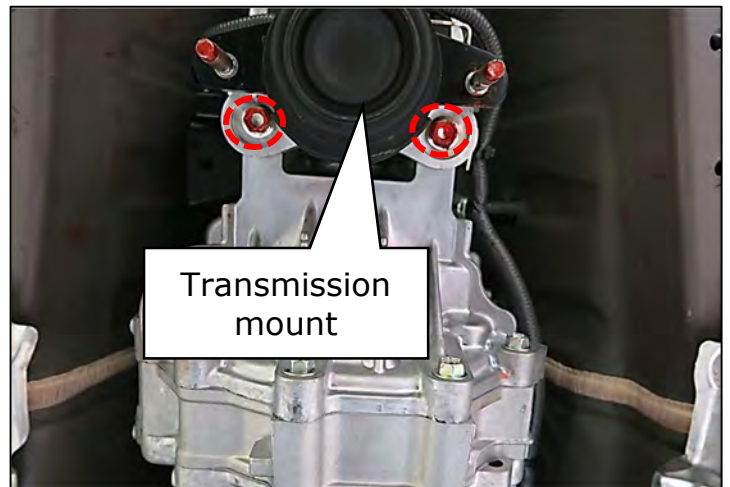

Figure 55
- Remove the (2) bolts from the transmission mount. (Figure 55)